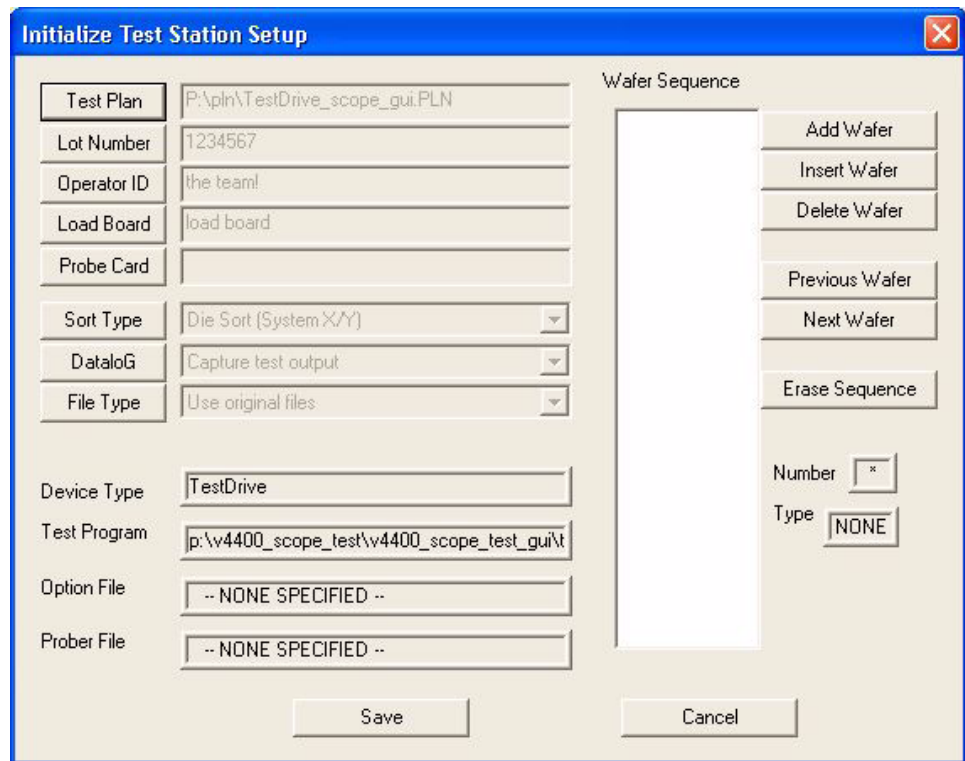

Figure 6-45. Initialize Test Station Setup Dialog Box
- 2 In the menu bar, selecting **Init Lot > Enter Lot Information** displays the **Initialize Test Station Setup** dialog box (Figure 6-45) that is used to set up each lot for testing.